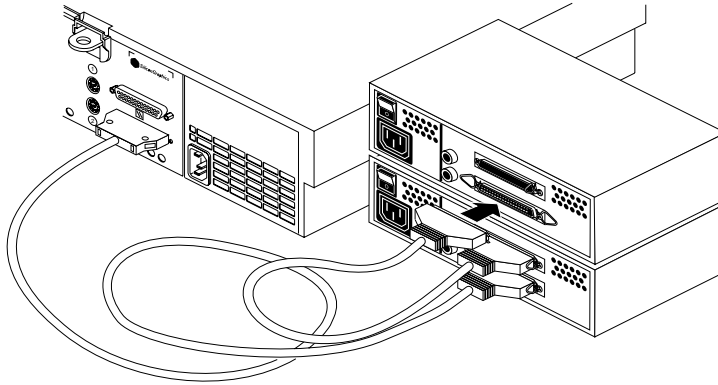

Figure 6-7 Daisy-Chaining an External 50-Pin Single-Ended SCSI Device
- To daisy-chain the device to another external SCSI device, connect one end of the cable to the open connector on the first device, as shown in Figure 6-7. Connect the other end to one of the connectors on the device you are adding. Keep in mind the total cable length limit of two meters for controller 0. Use the shortest possible cable.